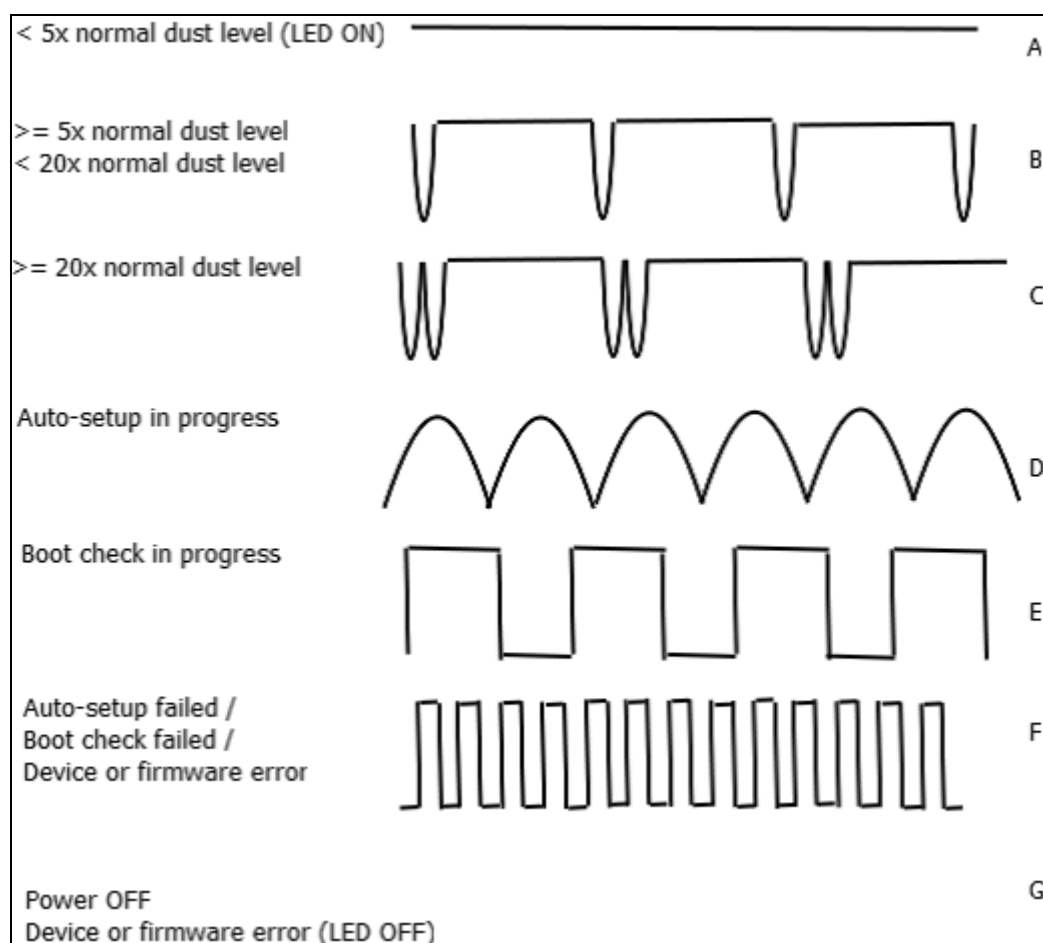

Figure 5 Description of Snifter A2 cover illumination sequences.
- 2.1 by connecting the automatic setup signal (green wire) to the V+ signal (wire) for a period of 1 second. The automatic setup will initiate and the front panel light will start to blink slowly (sequence D in Figure 5 Description of Snifter A2 cover illumination sequences.).